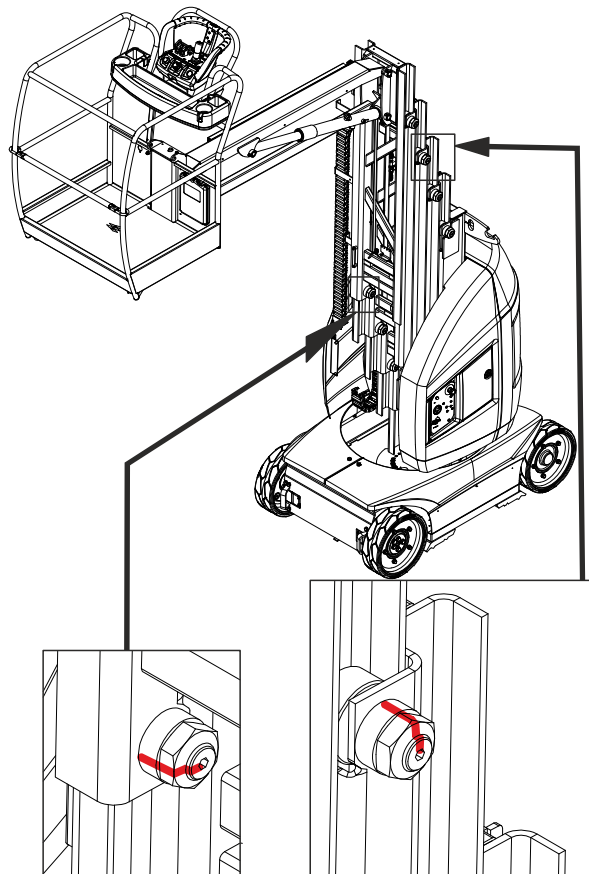

Figure 5-29. Top and Bottom Rollers
15. Visual marking is required: mark the rollers with a paint mark as shown in (See Figure 5-29.)